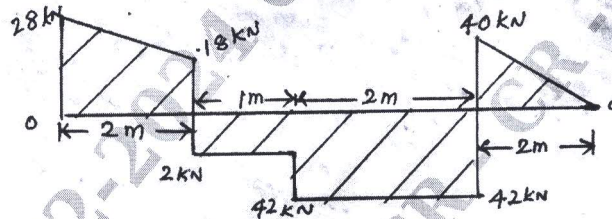

Fig. Q6 (b)
b. From the given shear force diagram, shown in Fig. Q6 (b) develop the load diagram and draw BMD. Also determine points of contraflexure if any.